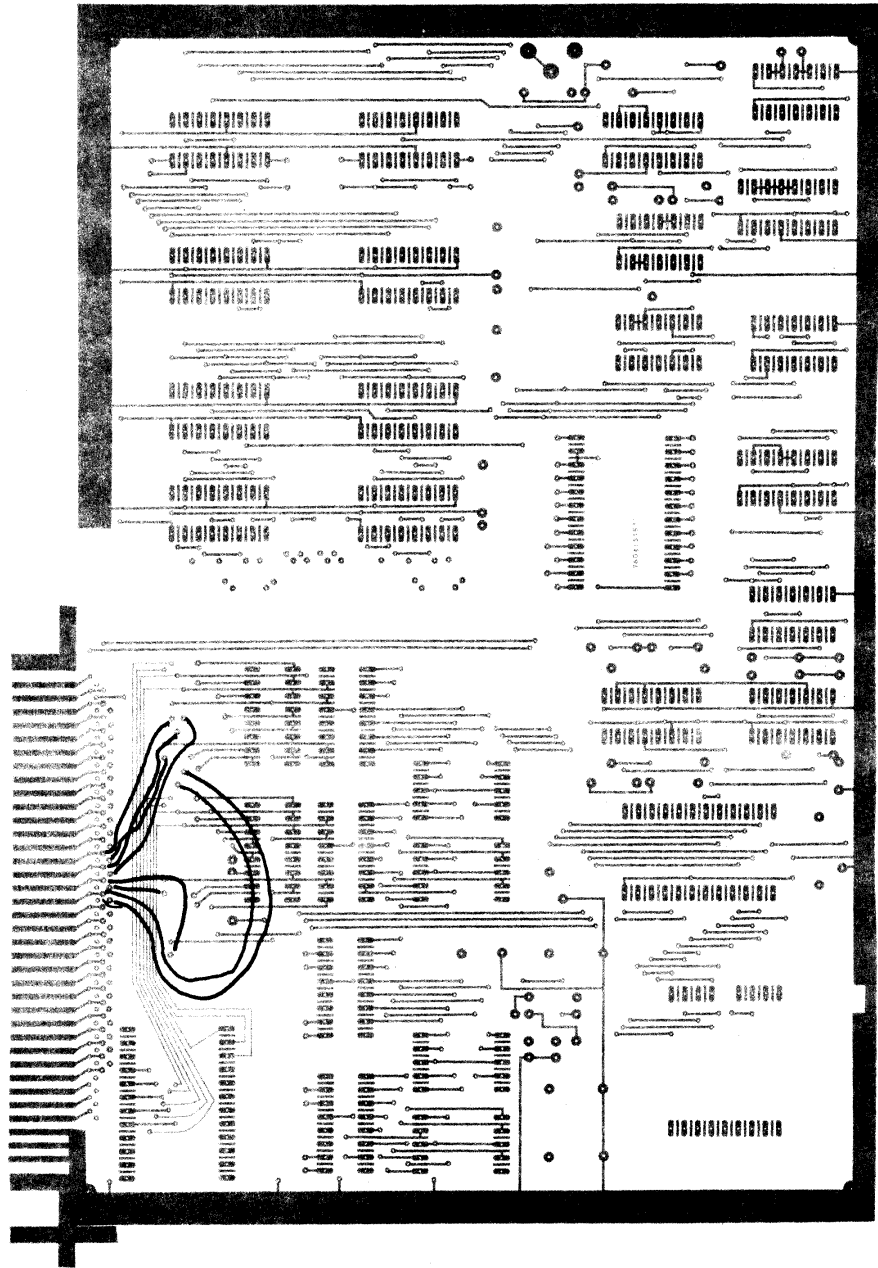

Figure 15. Input to Address Driver Bussing
- (.) Cut and prepare eight 2 inch lengths of wire. Connect as indicated in Figure 15.